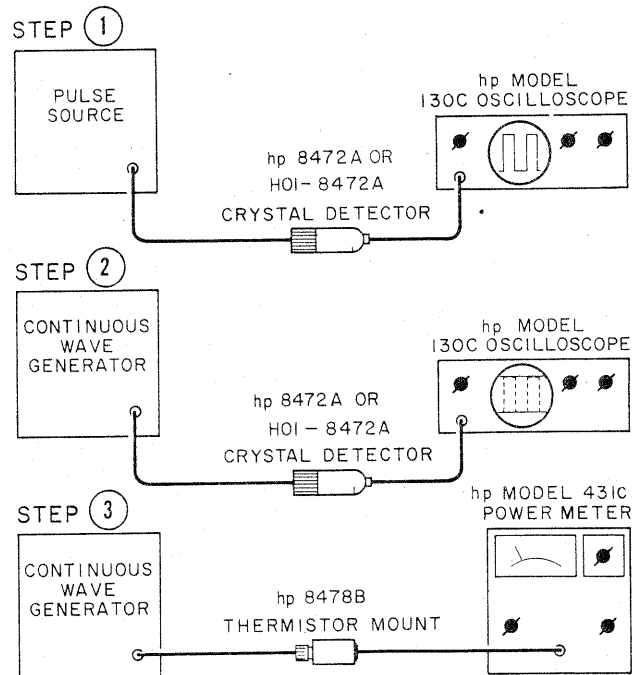

Figure 1. Peak Power Measurement
The arrangement of equipment for peak power measurement is shown in Figure 1. The procedure involves calibration of an oscilloscope which in turn is used to calibrate a CW generator. The output of the calibrated CW generator is measured with a power meter; the peak power of a pulse is thereby measured. The procedure is as follows:
- a. Connect equipment as shown in Figure 1, step 1.